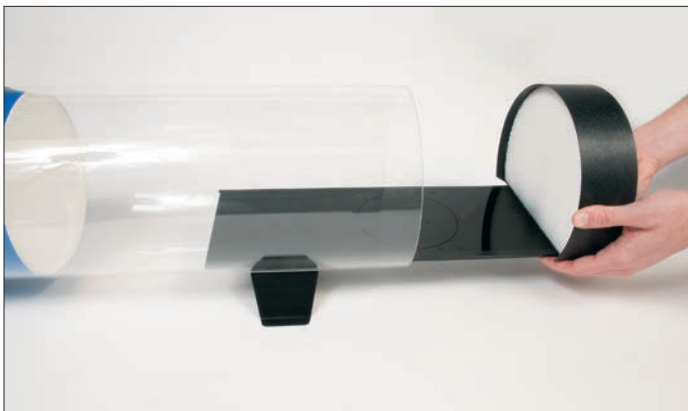

Figure 6
1. Pull the right side of the FLO Tunnel out (Figure 6). Take out the circle platform in the bottom of the FLO Tunnel (Figure 7).